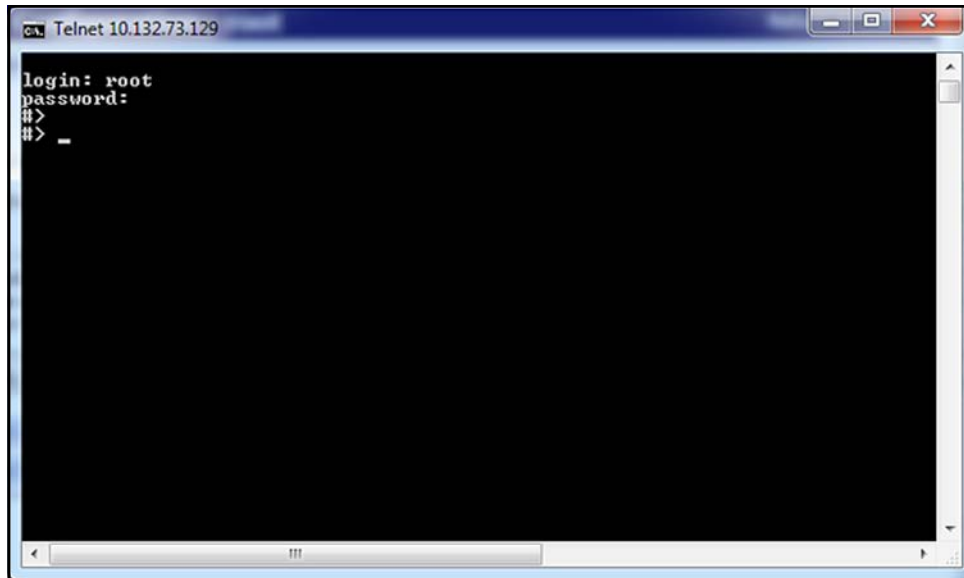

Figure 76: Telnet Login
3. At the module login: prompt, log in using the root account. Your password will not be echoed back. Upon successful login, the #> module prompt is displayed (see Figure 76 below).